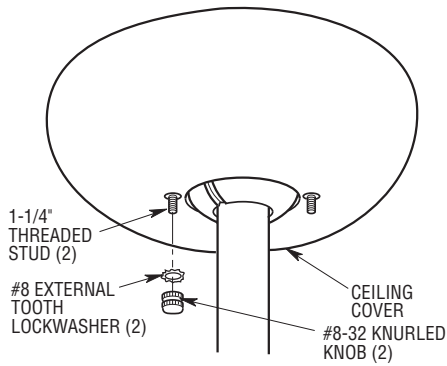

Figure 15
- 4. Lift the ceiling cover up to the threaded studs and turn until the studs protrude through the holes in the ceiling cover (Figure 15).
- 5. Secure the ceiling cover in place by sliding lockwashers (supplied) over the threaded studs and installing the two knurled knobs (supplied). (Figure 15). Tighten the knurled knobs securely until the ceiling cover fits snugly against the ceiling.